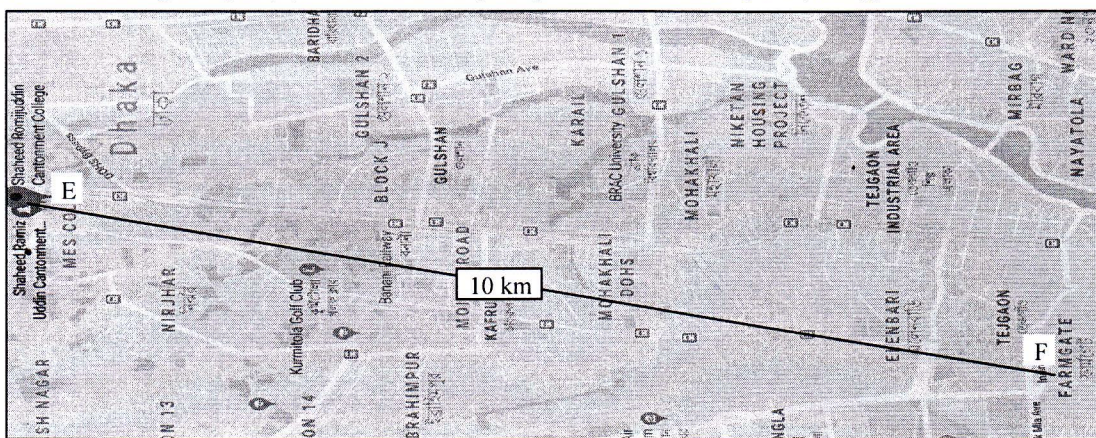

Fig. 9: Google Map showing Epicenter and Farmgate area
10. An earthquake of Moment Magnitude 9.0 originates from a fault at Epicenter E (Shaheed Romizuddin Cantt. College, shown in Google Map of Fig. 9) and propagates over a rupture area of width 100 km and depth 700 km through underlying rock having shear modulus 100 GPa. Calculate the
- PGA at Farmgate area (F), 10 km from E [using Milne and Davenport (1969)].